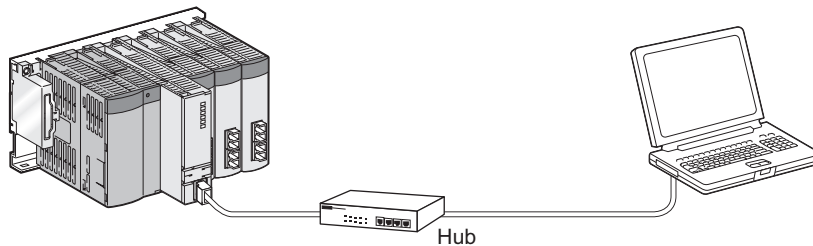

Figure 3.18 Non-direct connection
- Do not configure the direct connection in a system configuration that connects the Built-in Ethernet port QCPU with an external device using a hub in Figure 3.18.